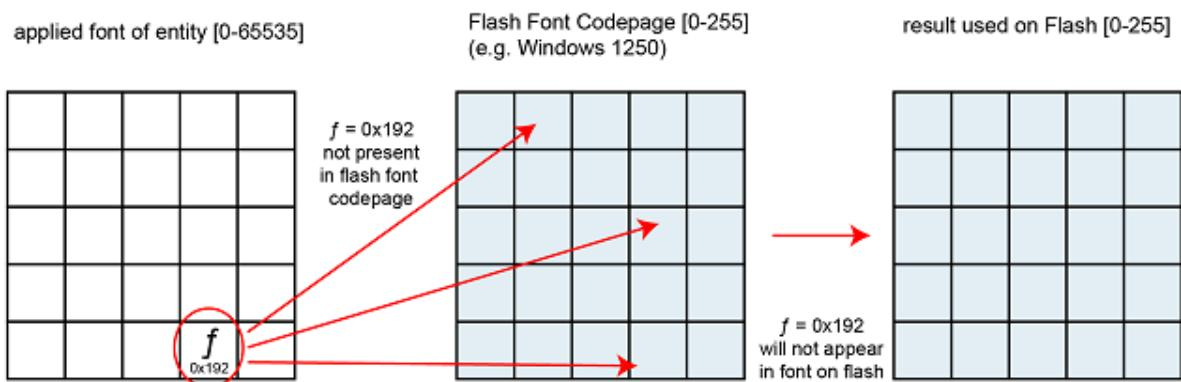

Figure 70: Example for not mapping Unicode character 0x192 of the applied font of the entity
- b. If a Unicode number of the applied font of the entity is not found in the Flash Font Codepage, it will not be present in the result on flash (see example in figure 70: Unicode character 0x192 (f) of the applied font of the entity is not present anywhere in the Flash Font Codepage (Windows-1250).).